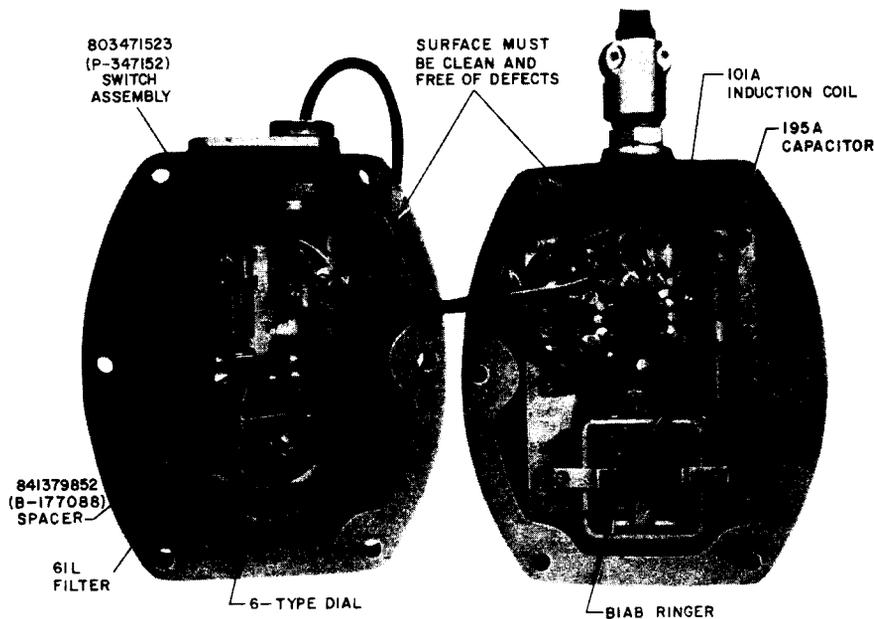

Fig. 2—KS-14476, List 1 Dial Telephone Set (Manufactured Before 1-31-78)
2.02 Ringer, dial, and switchhook assemblies inside housing of KS-14476, List 1 set are connected to shafts which transmit the required motion through housing (Fig. 2). Ringer gongs are exposed on bottom of set.